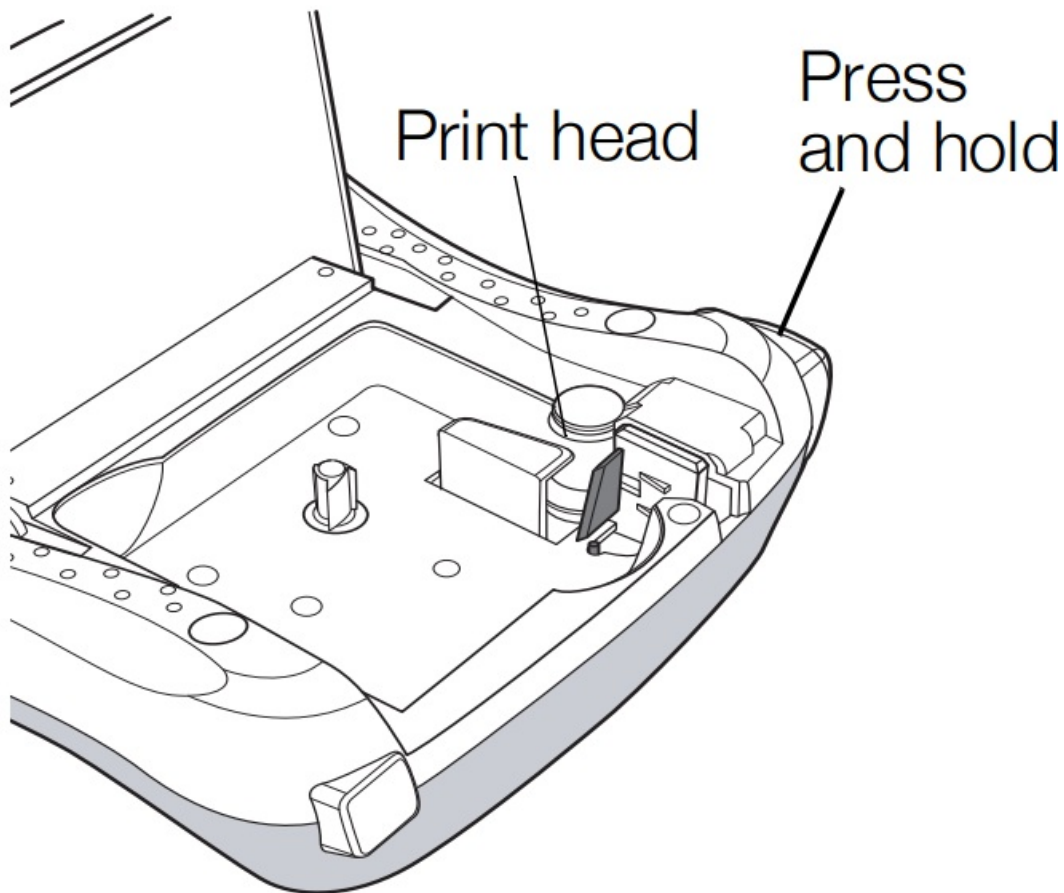

Figure 5
2. Press and hold the cutter button to expose the cutter blade. See Figure 5.